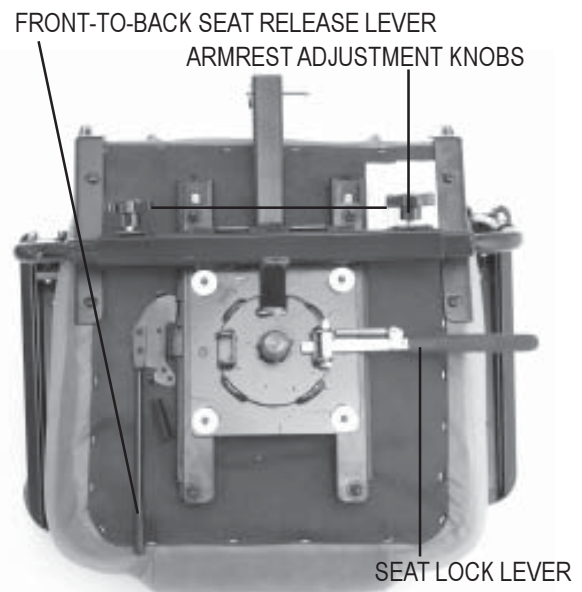

FIGURE 13. SEAT ADJUSTMENTS
1. Pull the front-to-back seat release lever to the left. See figure 13.
1. Push down on the seat lock lever to unlock the seat. See figure 13.
1. Loosen the armrest adjustment knobs at the back of the seat frame. See figures 13 and 14.